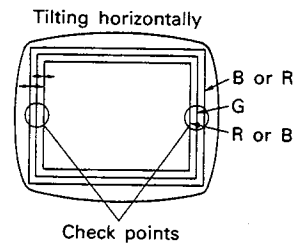

Fig. 4-7
- (2) Observe the vertical lines at left and right center of the screen as shown in Fig. 4-7. If red or blue is shifted against green, converge by tilting the yoke horizontally. Then confirm that the horizontal lines both at top and bottom centers of the screen are also converged.